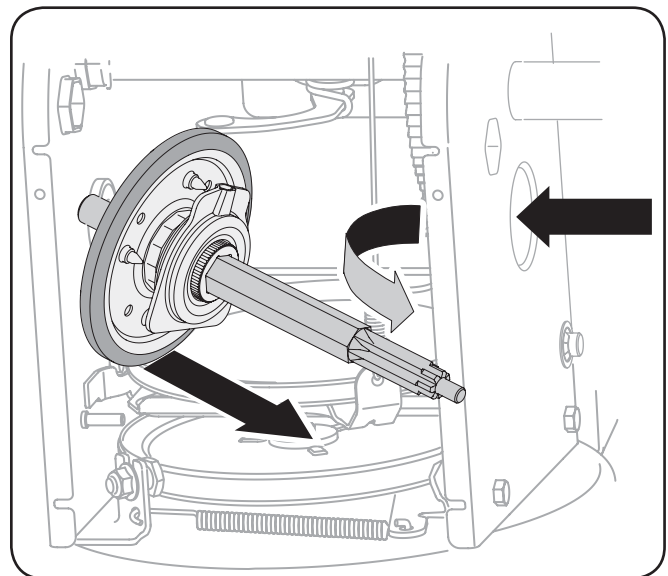

Figure 7-9
6. Carefully position the hex shaft downward and to the left before carefully sliding the friction wheel assembly off the shaft. See Figure 7-9.